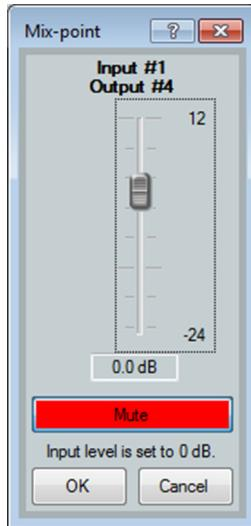

Figure 66. Mix-point Configuration Dialog Box
1. Double-click the desired mix-point for the desired input-to-output routing. The Mix-point dialog box opens (see figure 66).